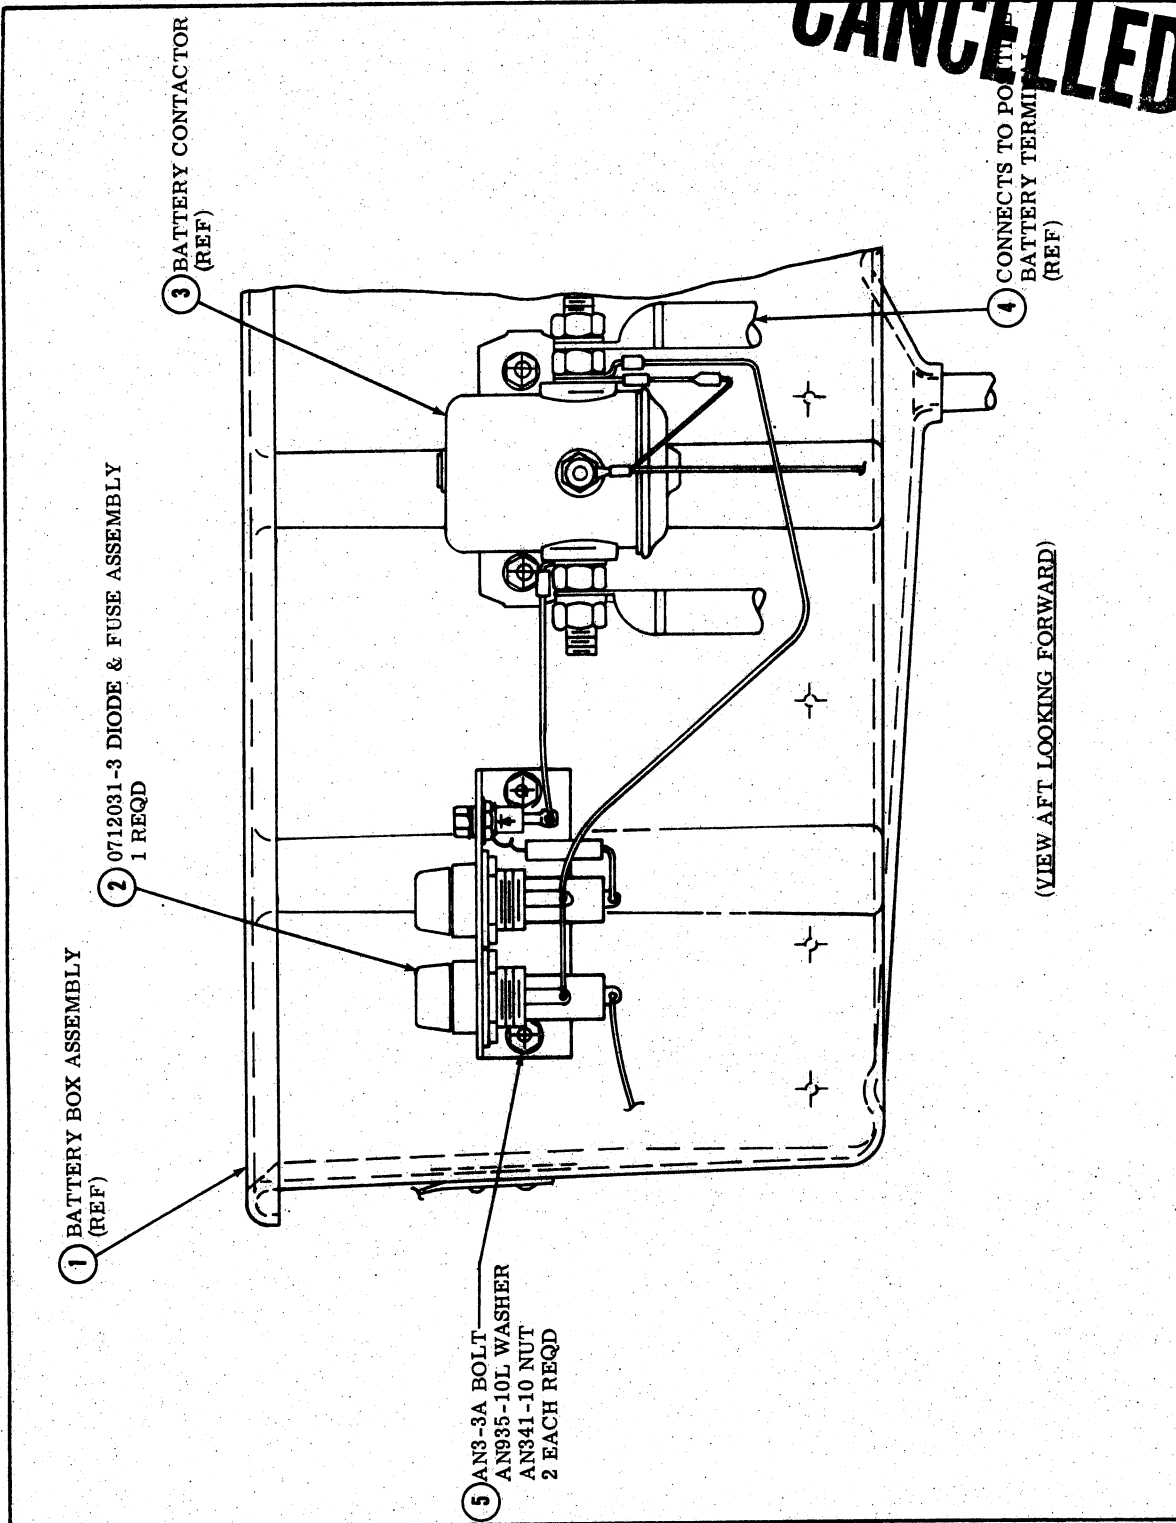

Figure 4. Diode and Fuse Assembly Installation
- (1) In accordance with dimensions shown locate and mark cutout on inside of cowl (1). Reinstall cowl and check alignment of receptacle and marked cutout. Make any adjustments necessary for proper alignment.
- (2) Remove cowl and cut out marked area.
- (3) Position doubler (4) so hole in doubler is concentric with cutout in cowl. Using doubler as guide drill ten #40 (.098) holes and secure doubler to cowl with rivets (18).
e. (Refer to figure 4.) Fuse and Diode Installation.
- (1) In accordance with illustration locate existing holes in battery box and install fuse and diode bracket using bolts, washers and nuts (5).
f. (Refer to figure 4.) Wiring Installation.
- (1) Fabricate and install wiring as shown in accordance with wiring diagram.